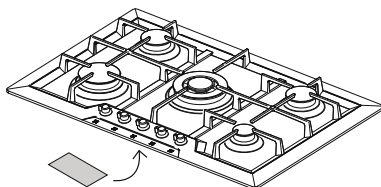

Fig. 1: position of the identification plate
**The identification plate, with technical data, serial number and marking, is positioned in view under the housing [Fig. 1].**